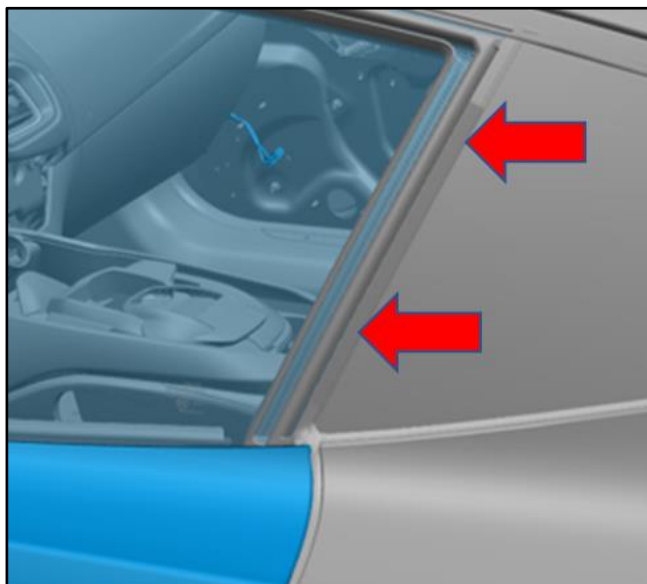

Figure 10
20. Do a check that the distance between the door glass and the rear quarter glass is correct. (Refer to Figure 10.)